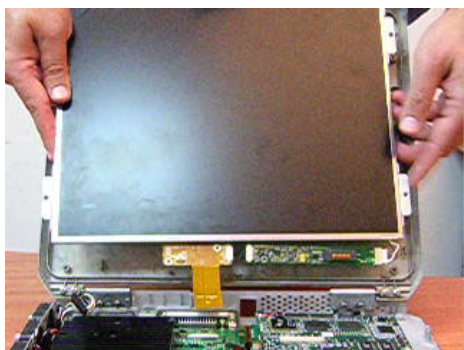

Figure 8-75 Removing the LCD Display
- 6) Using both hands, carefully lift the LCD Display upwards and remove it from the Rear Cover & Latch Assembly, as shown in Figure 8-75.
- 5) Using both hands, carefully lift the LCD Display upwards and install it back to the Rear Cover & Latch Assembly, see Figure 8-75 on page 8-65.